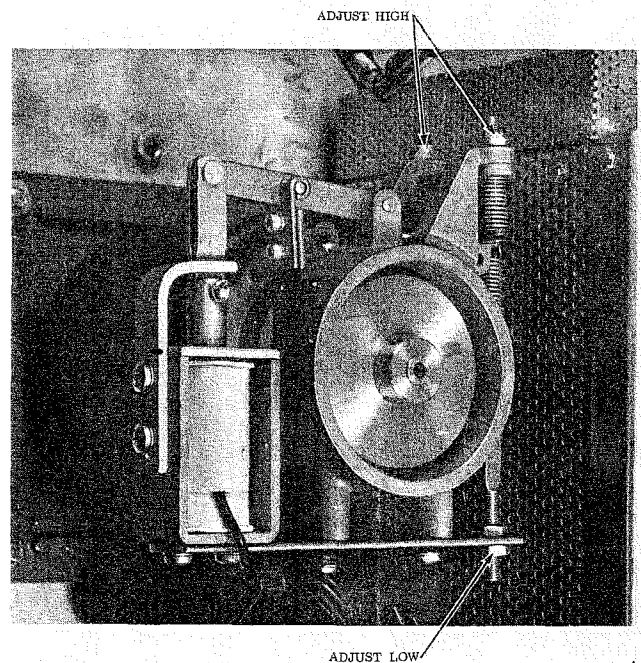

Fig. 4-2 Brake Adjustment Points
Step 5: If the indication in Step 4 is incorrect, adjustment for this "high" force is made at the two points shown in Fig. 4-2. Run the two nuts in to increase braking force, out to decrease. Be sure both nuts are turned an equal number of turns.
Step 6: Wrap the cord on the supply reel in the clockwise direction and repeat Steps 3 and 4, using the appropriate scale. The indication should be 40% (± 1 ounce) of that obtained for the counterclockwise rotation. If necessary, adjust the "low" braking force at the point indicated in Fig 4-2.